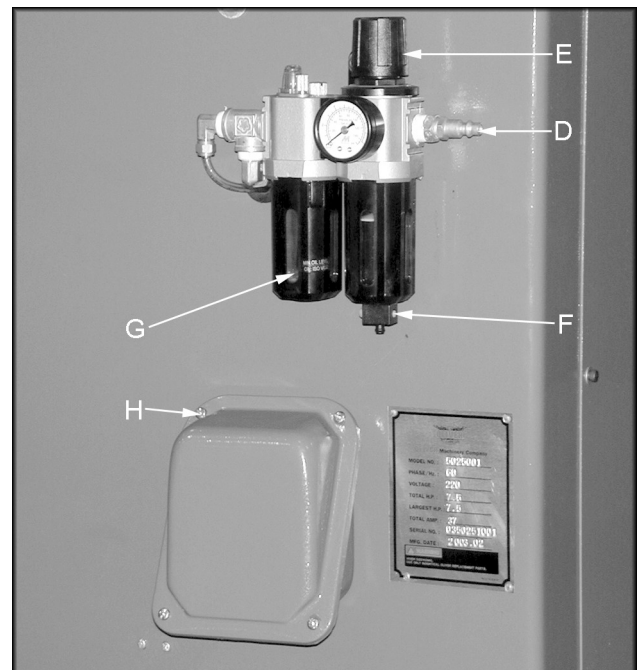

Figure 2
Connect air hose to the Oliver 18" Cut-Off Saw at the male quick connect fitting (D, Figure 2).
Pull up on adjustment knob (E, Figure 2) and turn to set the air pressure to approximately 70 psi. Push adjustment knob down to lock.
Drain any water that may accumulate in the collector by opening the valve (F, Figure 2).
Add air tool oil to the container (G, Figure 2) whenever the oil level reaches the minimum mark on the container.
2. Remove four screws (H, Figure 2) that secure the cover to the connection box.
2. Remove four screws (H, Fig. 2) that secure the cover to the connection box.